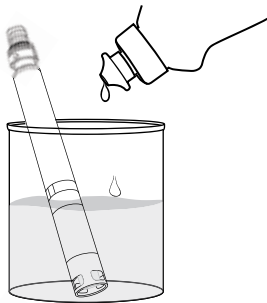

Figure 73 Cleaning the pH and pH/ORP sensor with dish soap
2. Soak for 10 minutes in a mild solution of clean water and dish soap (Figure 73). Rinse the sensor with tap water and inspect.